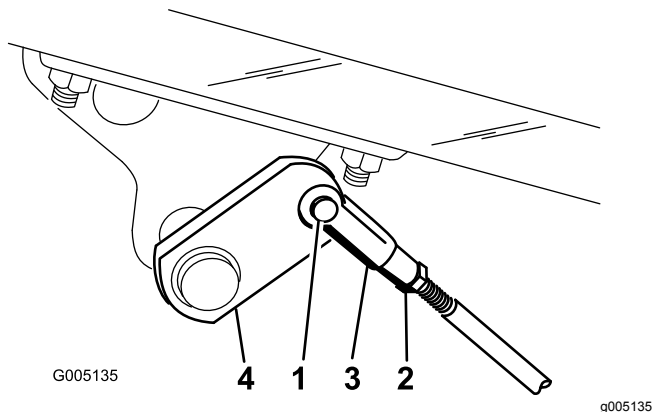

Figure 55
2. If the brakes do not lock equally, disconnect the brake rods by removing the cotter pin and clevis pin (Figure 55).
3. Loosen the jam nut and adjust the clevis accordingly (Figure 55).
4. Assemble the clevis to the brake shaft (Figure 55).